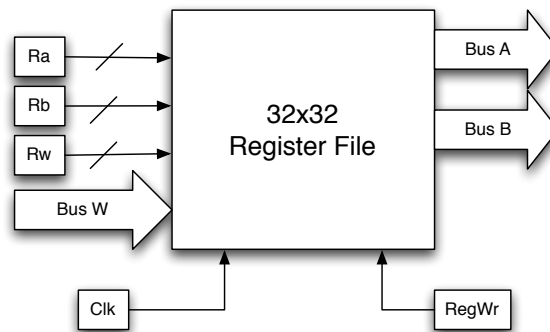

Figure 1: The port interface for the MIPS Register File
The register file provides high speed storage of data within the MIPS processor and is at the heart of any Reduced Instruction Set Computer (RISC). Figure1 depicts the register file that we will create for our MIPS processor. In the case of RISC, the instructions directly address the register file, instructing the machine where within the register file to pull the operands from and where to store the result.
For this reason, RISC is often referred to as a register-to-register machine. A register file is typically constructed from flip-flops or, in the case of a larger processor or an FPGA implementation, SRAM cells and uses multiplexers and decoders to provide a means for reading and writing. Register files are typically architected for a reduced access latency and concurrent reads and writes, which implies that they are small (on the order of 8 to 128 registers deep). Figure1 shows the MIPS register file to be 32 registers deep and 32-bits wide. Also shown is the port interface specifically for the MIPS architecture. Notice that there are two read ports and one write port (i.e. BusA, BusB and BusW) and the appropriate address buses, Ra, Rb, and Rw, correspond to the rs, rt, and rd fields in the arithmetic
and logic instructions within the MIPS ISA. For our implementation of MIPS, the register file supports asynchronous reads and synchronous writes. RegWr is Figure 1 is an active high write enable signal.
- (a) Using Figure 1 as a reference, describe a register file in behavioral Verilog to the following specifications: